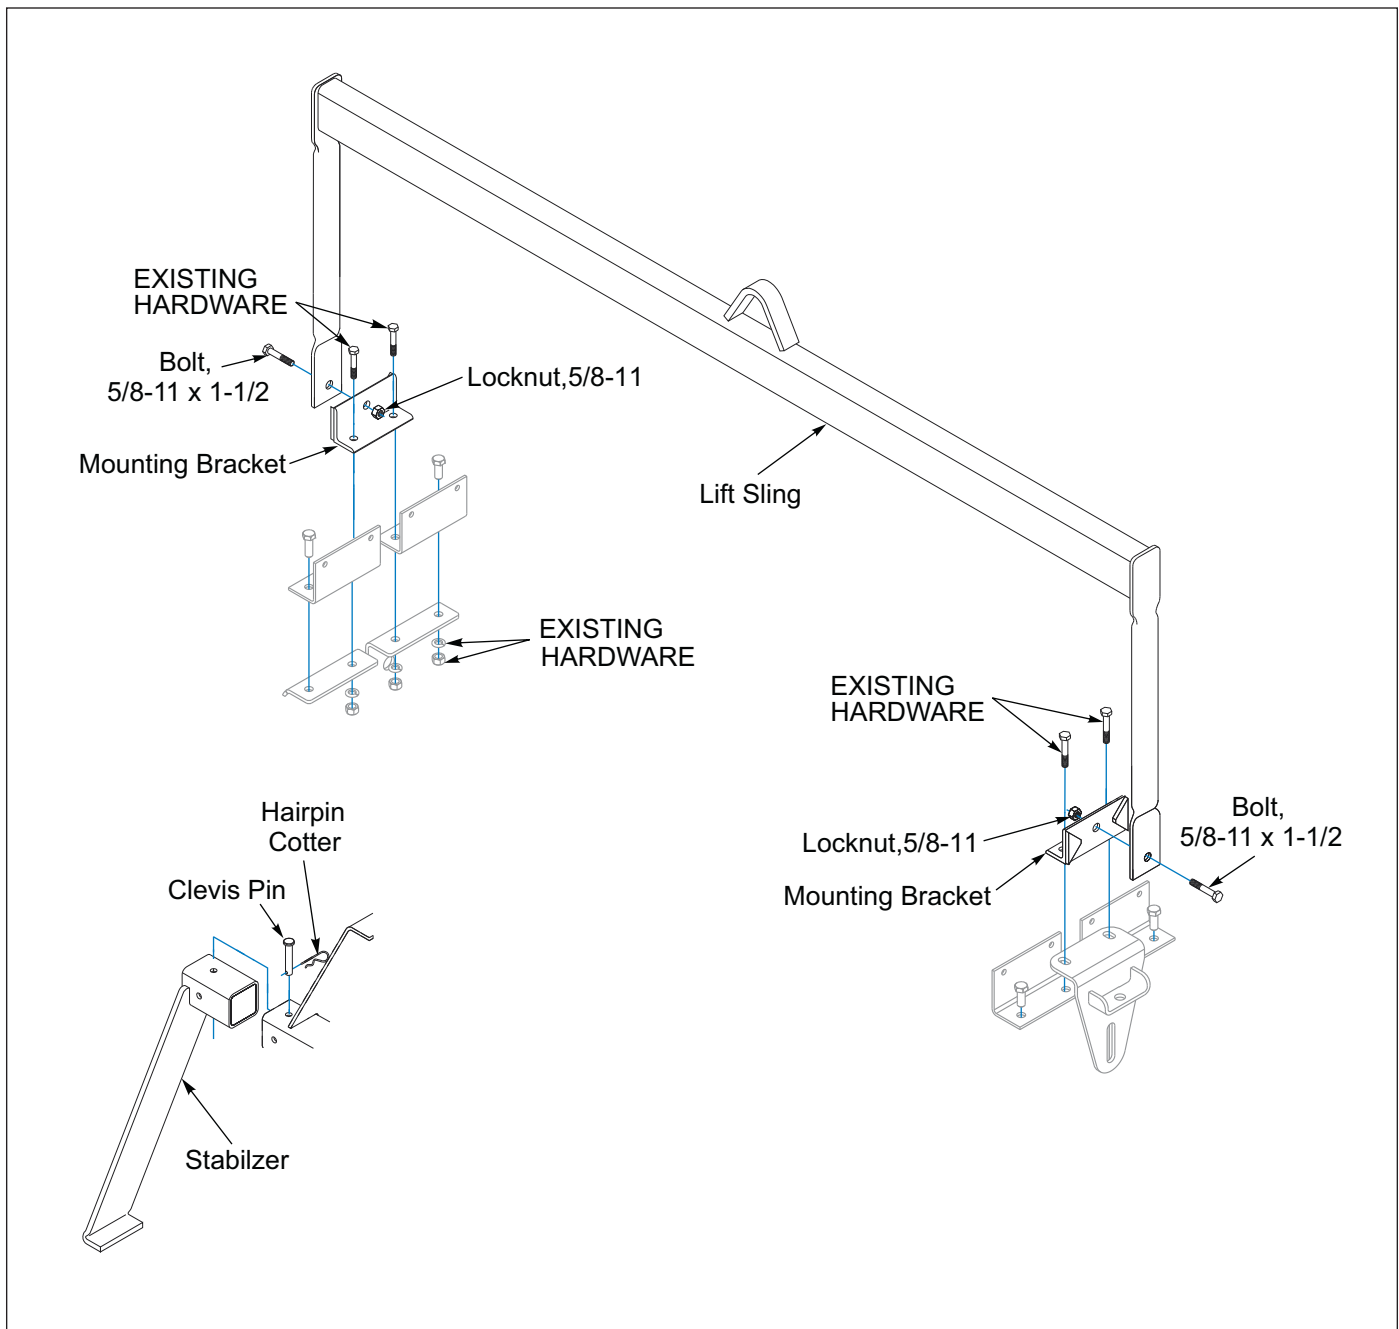

Figure 2-5: Lift Sling Kit
2. Attach the lift sling to mounting brackets with 5/8-11 x 1-1/2" bolts and stover nuts provided in kit. **See Figure 2-5.**